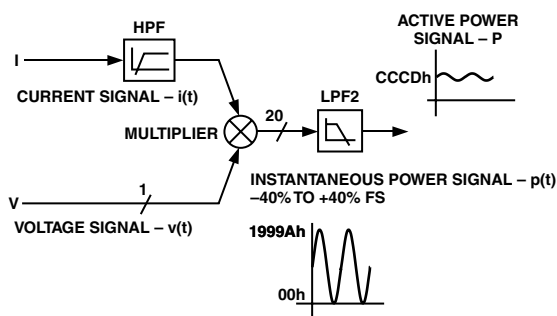

Figure 34. Active Power Signal Processing
Figure 34 shows the signal processing chain for the active power calculation in the ADE7759. As explained, the active power is calculated by low pass filtering the instantaneous power signal.
As mentioned in the last section, the discrete time sample period (T) for the accumulation register is $1.1 \mu\text{s}$ ($4/\text{CLKIN}$). With full-scale sinusoidal signals on the analog inputs, digital integrator turned off, and the active power gain register set to 000h, the average word value from LPF2 is CCCDh —see Figures 34 and 35. The maximum value that can be stored in the active energy register before it overflows is 2^{39} or